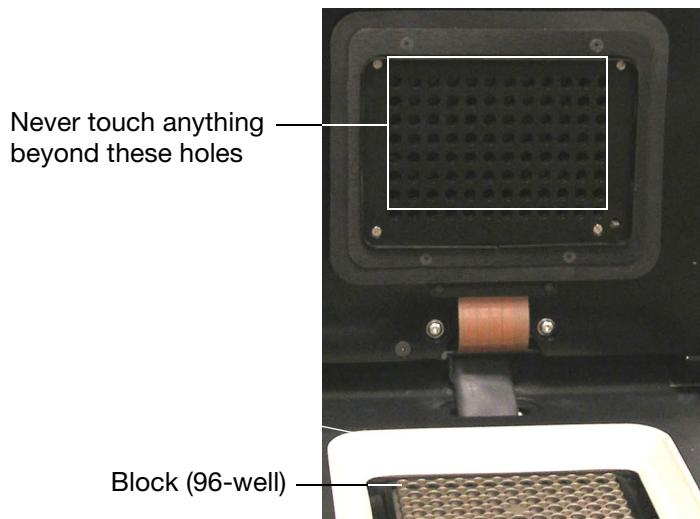

Figure 116. Heating plate holes in the inner lid.
- Never clean or otherwise touch the optical system behind the heater plate holes are in the inner lid (Figure 116)
WARNING! Never touch or allow solutions to touch the optical system that is located behind the heated plate holes in the inner lid (Figure 116).